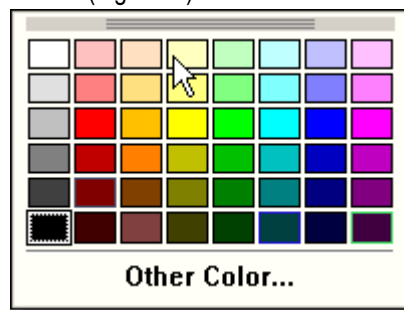

Fig. 6-50
4. The color selection box is shown. (Fig. 6-50)